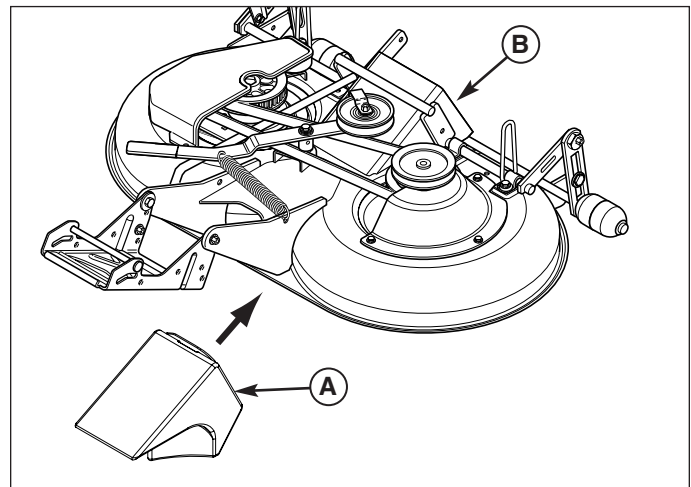

Figure 15. Install Mulch Plug
3. Insert mulch plug assembly (A, Figure 15) into discharge (B) from the under side of the mower deck.